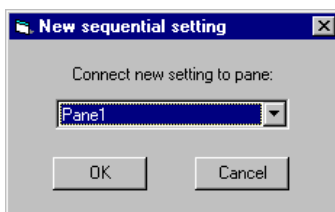

Figure 13 New sequential setting window
2. In the 'New sequential setting' window Fig. 13, you choose the pane where you wish this setting to be displayed, from the pull down menu. In this case, choose 'Pane1' for Sequential Setting 1, and so on.